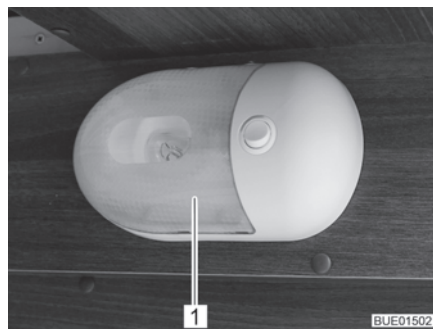

Fig. 193 Surface mounted light
- Carefully push the transparent cover (Fig. 193,1) together from both sides, pull it lightly from the switch and pull it off forwards.